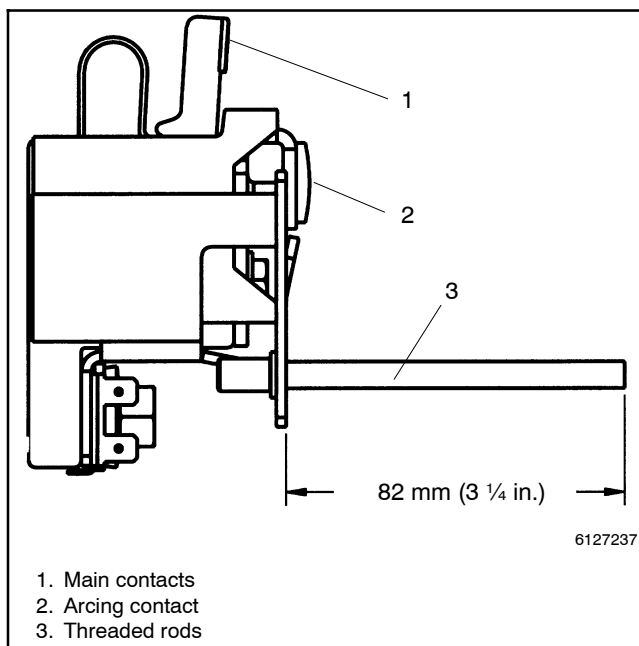

Figure 8-17 Threaded Rods For Arc Chutes
1. Check the arc chute mounting rods. Make sure the two threaded rods are installed in the arc chute support plate. They should extend out from the plate no more than 82 mm (3.25 in.). The two threaded rods should have thread sealant to hold the proper length. See Figure 8-17.